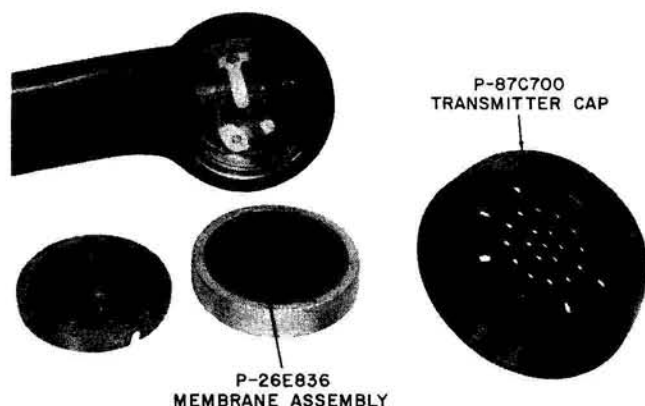

Fig. 13 — P-26E836 Membrane Assembly
4.09 A P-26E836 waterproof membrane assembly, which fits over the transmitter, may be installed in any G-type handset. When this cover is used, it is necessary to install a special P-87C700 transmitter cap (Fig. 13).